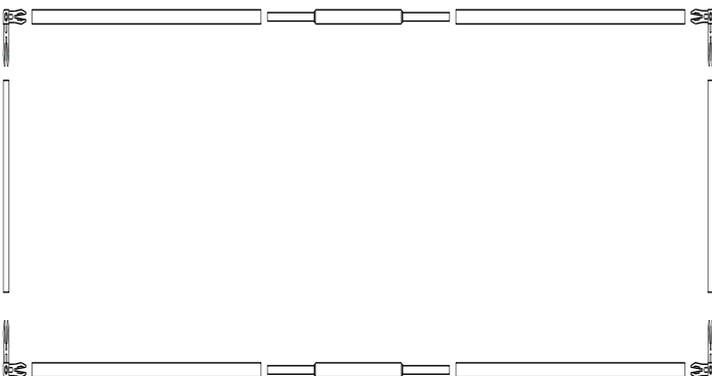

Figure 8: Diagram of 1 ft x 5 ft frame
- 1 Build the 1 ft x 5 ft frame structure as shown in Figure 8 using four 2 ft aluminum frame tubing pieces, two 1x tube connectors, two 1 ft aluminum frame tubing pieces, and four right-angle tubing connectors. Remember to construct the frame so that all Velcro surfaces face in (toward the center of the structure).